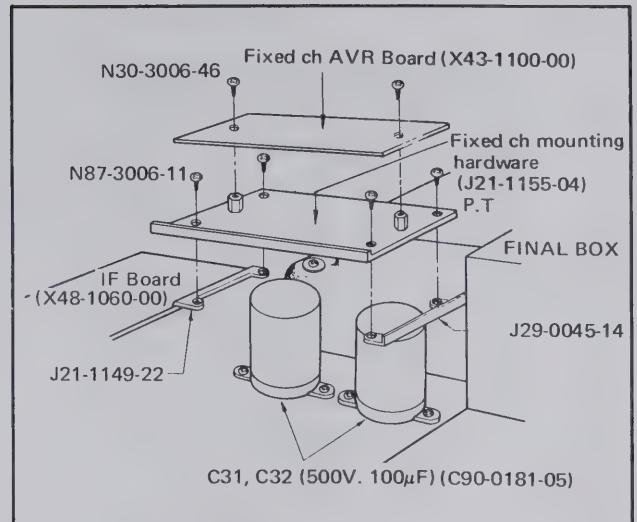
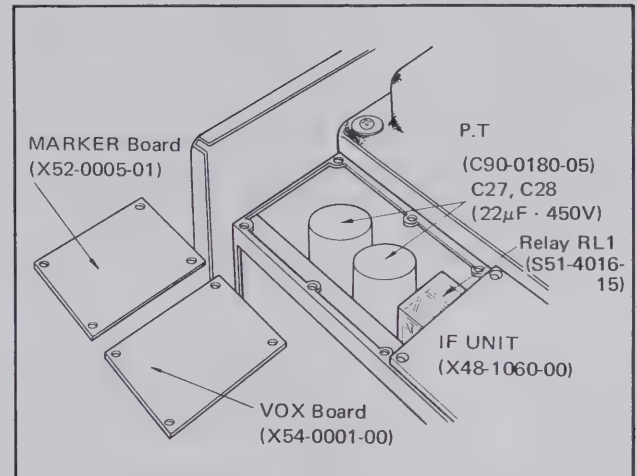

Figure 7A. Replacing C31 and C32
Figure 7B. Replacing C27 and C28
See Figure 7. C31 and C32 are reached by removing the TS-520's top cover and then the FIXCH-AVR board as shown in Figure 7A. C27 and C28 are reached by removing the transceiver's top case and then the MARKER and VOX boards as shown in Figure 7B.
2. Remove the FIXED CHANNEL-AVR board as shown in Figure 7A.